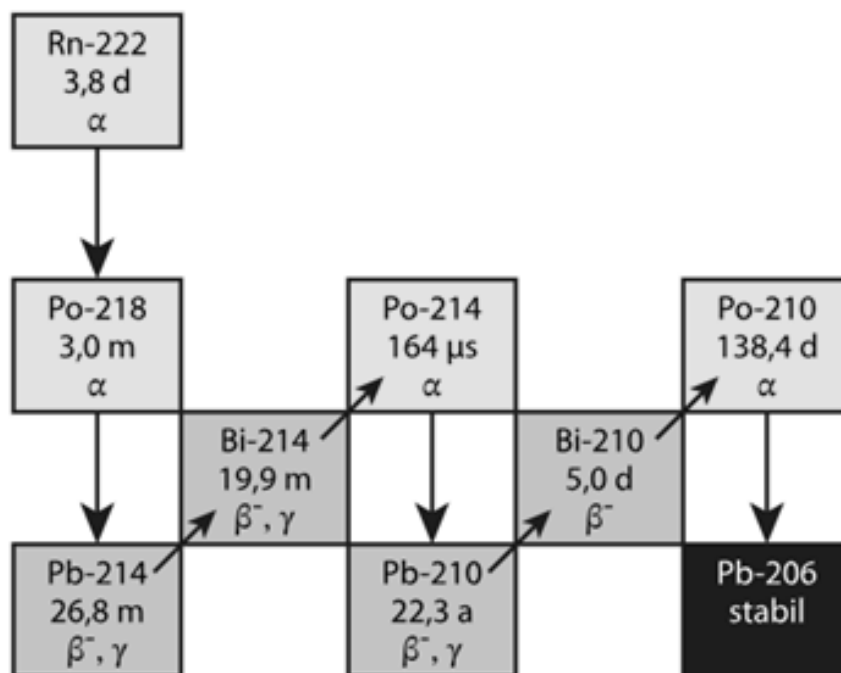

Figure 3.2: Radioactive series of radon, half-lives of the nuclei and types of radioactivity. Units in the picture: d=days, m=minutes, a=years.
Radon (Rn-222) has a half-life of 3.8 days. It decays by α -decay into polonium (Po-218, half-life 3 minutes). This is followed by further decays with short half-lives (see Figure 3.2 below).
Afterwards, you will release the air from the balloon, thus reducing its surface area, which spatially concentrates these radioactive elements previously attracted to its surface. You will then use a Geiger-Müller counter to measure the combined activity of these elements on the balloon's surface. You will monitor the change of this activity during a time interval of 150 minutes. It is important to note that the measured activity is not from a single radioactive element (as shown in Figure 3.2) but rather a combined effect that we call "effective activity". In a first approximation, this effective activity also exhibits an exponential decay, at least in the first three hours.
- Question 3.1.5.:** The decay of which elements contribute mainly to the decrease of the effective activity that you measure during the activity measurements in steps 11)-12)? (see Figure 3.2.) Tick (✓) the cell(s) under the different nuclei mentioned on the ANSWER SHEET **Question 3.1.5.**
- Question 3.1.7.:** Have a look at the graph in Figure 3.2.
Now consider a hypothetical case where we assume that all elements in figure 3.2., apart from Rn-222, are present in equal quantities on the balloon at the beginning of your measurements. No new elements will be collected on the balloon during the measurements. Which elements are mainly present on the balloon's surface after 3 hours? Tick (✓) the cell(s) under the different nuclei mentioned on the ANSWER SHEET **Question 3.1.7.**